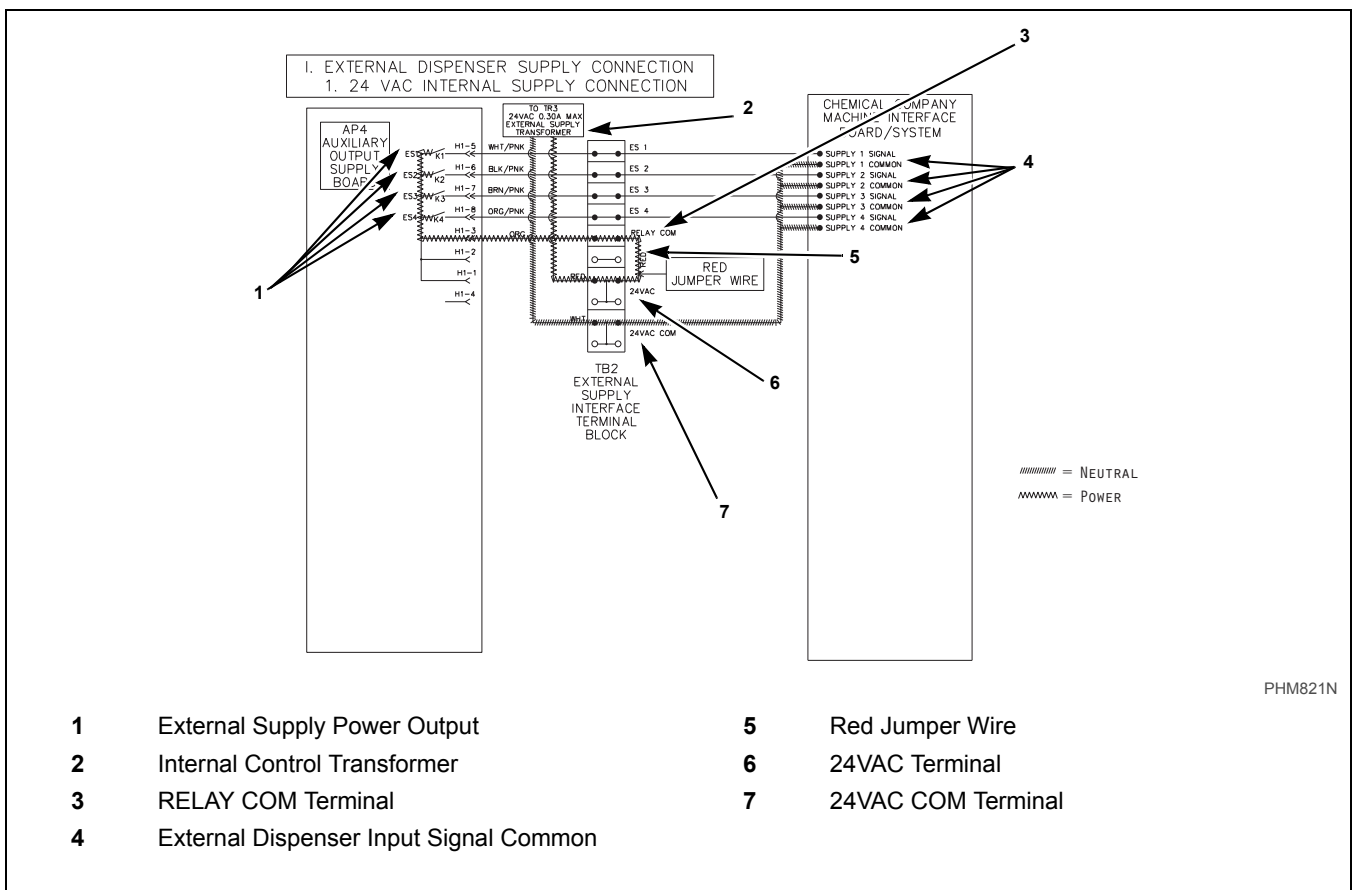

Figure 24
- The other terminal is used to connect the other side of the control transformer to the washer-extractor output signals common through a red jumper wire between "24VAC" and "RELAY COM". Refer to *Figure 24*.